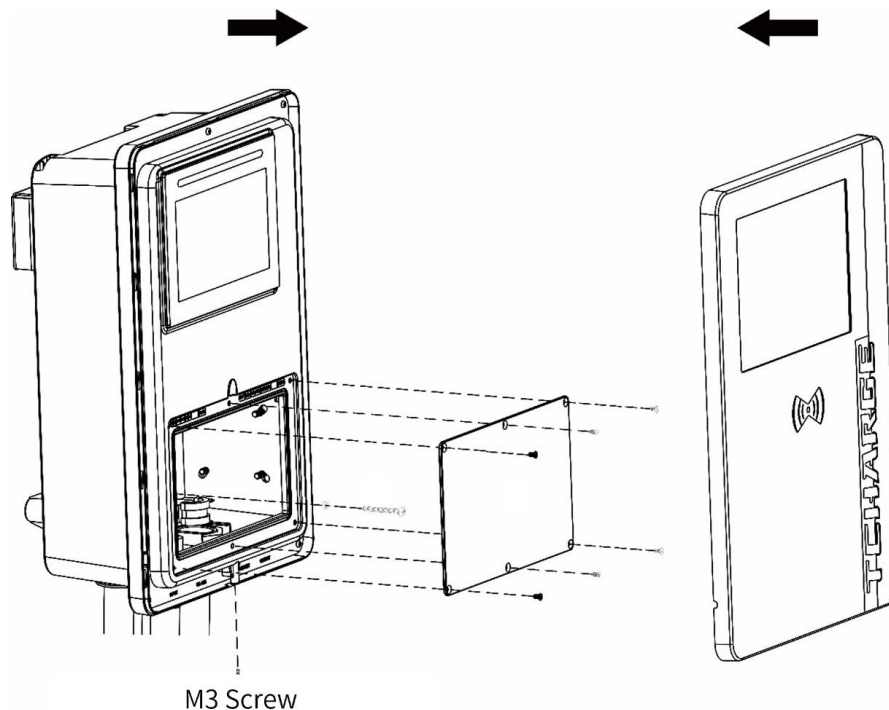

Figure 4.11 Restore the Front Covers of the Charger and Finish the Installation
- 1) Close the wiring area cover; **reinstall and fasten the six screws** that were previously taken off in **Part 4.1.1 Step (3)**.
- 2) Restore the front cover of the charger. Fasten the M3 screw in the bottom front to hold the front cover better (see **Figure 4.11**).